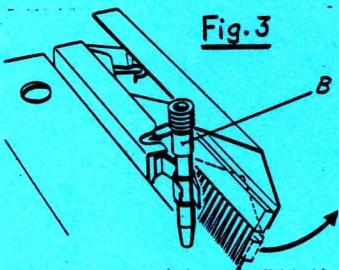

Fig. 3
- Take one VM-feeding eyelet (B) and place it into feeding eyelet carrier on the lock, see Fig. 3. To be able to do so, pull carrier forward until it opens in a pincer-like movement as shown in Fig. 3. Press centre part of feeding eyelet into the clamp on carrier.